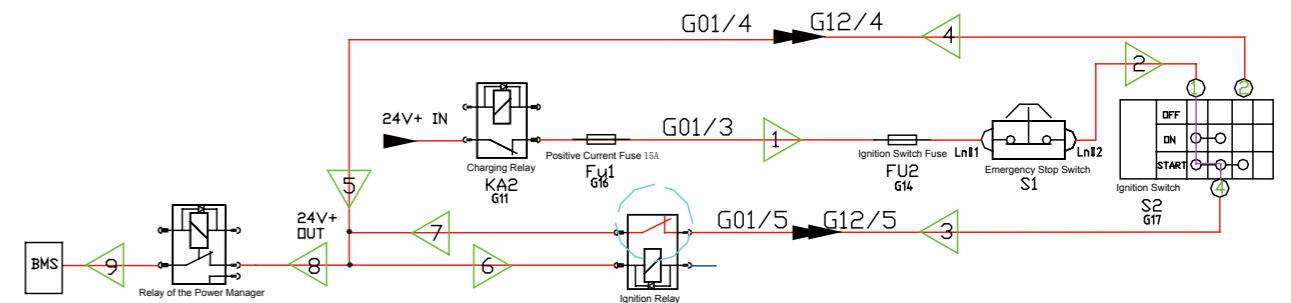

Fig. 4
- Release the key and reset the ignition switch S1 to the second gear. During this process, the ignition relay is always in pull-in status. As shown in Figure 4, the current trend direction of the entire forklift is 1—2—3—7—8—9 ( Ignition switch S1 is reset to the second gear ) .